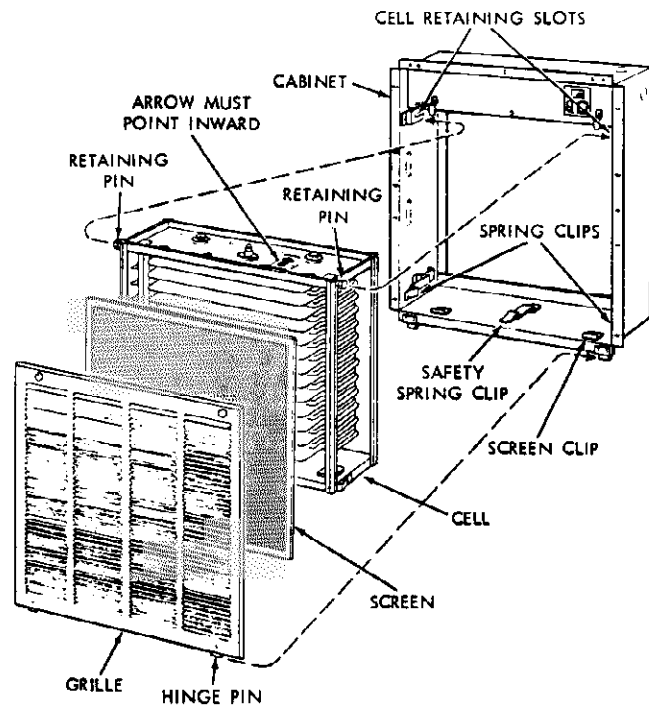

Figure 19
- b. Insert cell at the top and engage retaining pins (FIG. 19) into their respective cell-retaining slots, then slide cell outward until retaining pins are at bottoms of slots.
- d. Continue to push cell inward at bottom until it latches into the spring clips (one at each side of cabinet). Make sure both clips are latched. (See FIG. 19).
3. Close the grille by rotating into position on the cabinet (fig. 19). Lock in position with two knurled screws.
- b. Insert cell at the top and engage retaining pins (Figure 19) into their respective cell-retaining slots, then slide cell outward until retaining pins are at bottoms of slots.
- d. Continue to push cell inward at bottom until it latches into the spring clips (one at each side of cabinet). Make sure both clips are latched. (See Figure 19).